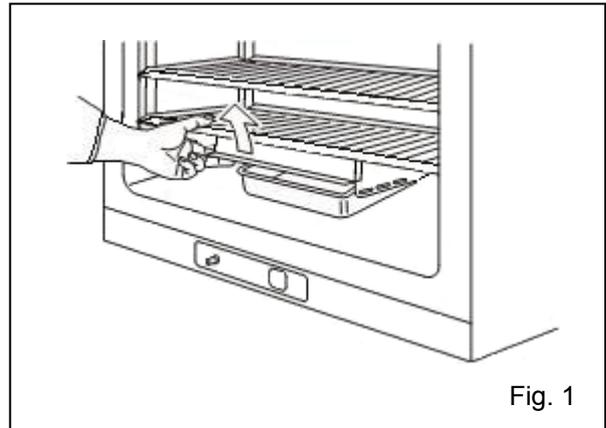

Fig. 1
2. Clean the removed inner attachments, the chamber inside walls and the inner door gaskets with a cloth or sponge soaked in neutral detergent, diluted by 5 % or less. (Undiluted detergent can damage the plastic components. For the dilution, refer to the instruction of the detergent.) (Fig. 1)
2. Open the outer and inner doors and pull out all the trays. (Fig. 1)
2. When installing the fan, insert it to the motor shaft securely. Lightly turn the fan manually to make sure that it does not touch the rear panel. Then install the central spring. (Fig. 1)
(Fig. 1)